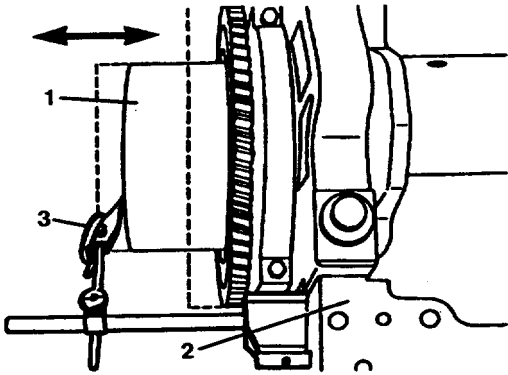

FIGURE 4-61. Crankshaft End Clearance Check.
- o. Attach a dial indicator gauge (3, FIG. 4-61) to the cylinder block (2) with the contact point of the gauge resting on the crankshaft flange end-face. Measure end clearance. If end clearance is not between 0.005 inch (0.13 mm) and 0.020 inch (0.51 mm), check for foreign matter on thrust bearings and crankshaft flange.